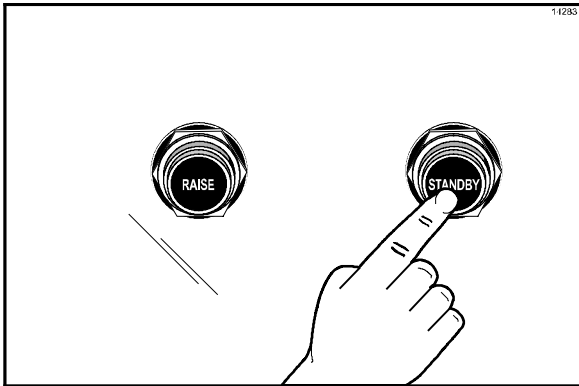

Figure 26
1. To place the upper platen in the STANDBY position, press the STANDBY button twice from the open position. (See Figure 26.)